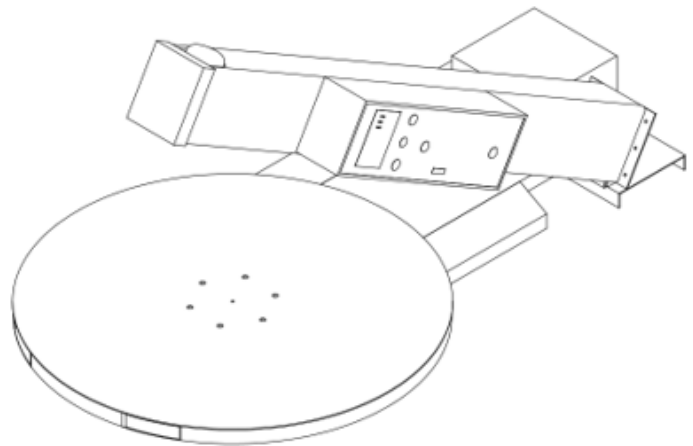

FIG2-7
2. Use the crane (or forklift) tool to raise the mast. While one person holds the mast vertical, the other person uses 6 M10 screws to fix the mast onto the proper position of the base unit see FIG2-7;